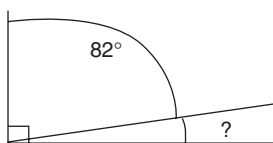

Figure 7-7
- A. Two angles are complementary. If one measures 82° , what size is the other angle? (See Figure 7-7)